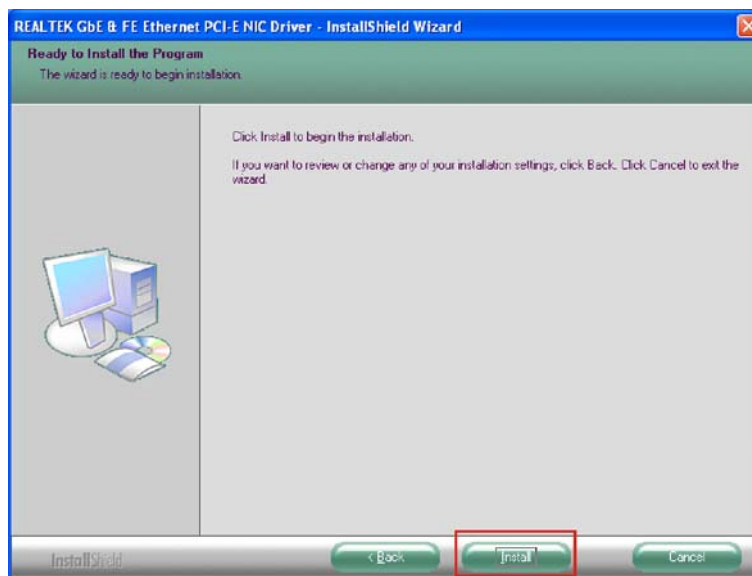

Figure 7-17: LAN Driver Welcome Screen
Step 5: The **Ready to Install** screen in **Figure 7-17** appears.